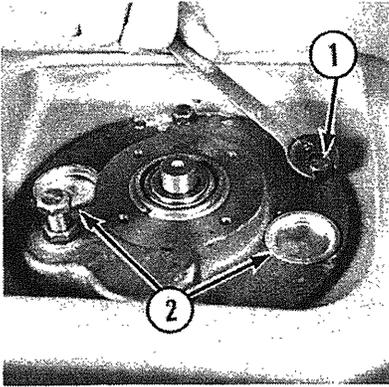

Fig. 3-4
- D. Remove four cap screws holding bearing carrier (1, Fig. 3-4). Remove two friction plugs (2, Fig. 3-4).